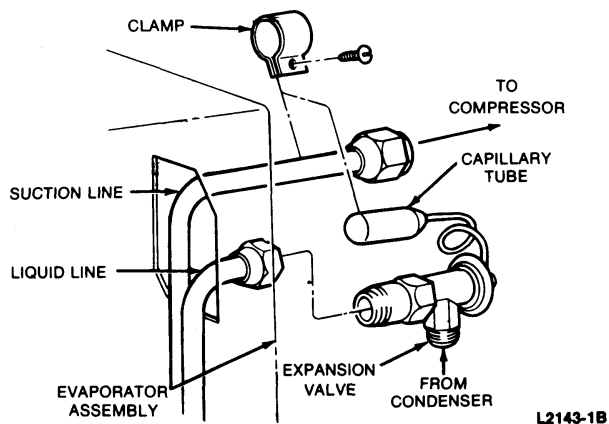

FIG. 24 A/C Expansion Valve Installation
10. Disconnect suction line and liquid line from the evaporator core and expansion valve (Fig. 24).
7. Connect suction line and liquid line to the evaporator core and expansion valve (Fig. 24).
The evaporator de-icing switch is attached to the evaporator assembly in the engine compartment (Fig. 24). In the A/C position, the de-icing switch senses the temperature of the evaporator core fins and electrically controls the cycling of the clutch assembly to prevent the core from freezing the condensation and blocking air flow. The cut-in temperature of the compressor clutch is $42^{\circ}\text{F} \pm 2^{\circ}\text{F}$ (clutch is operative) and the cut-out temperature is $28^{\circ}\text{F} \pm 2^{\circ}\text{F}$ (clutch is inoperative).